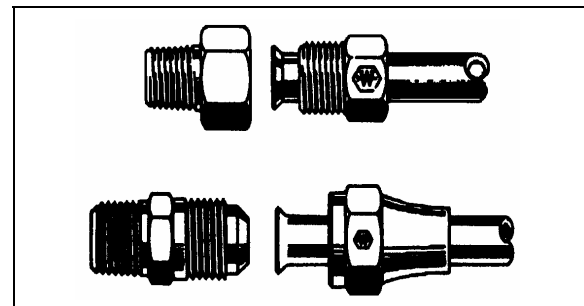

FIGURE 49: HOSE FITTINGS
**45° Flare and Inverted Flare:** Tighten assembly with a wrench until a solid feeling is encountered. From that point, tighten 1/6 turn (Fig. 49).